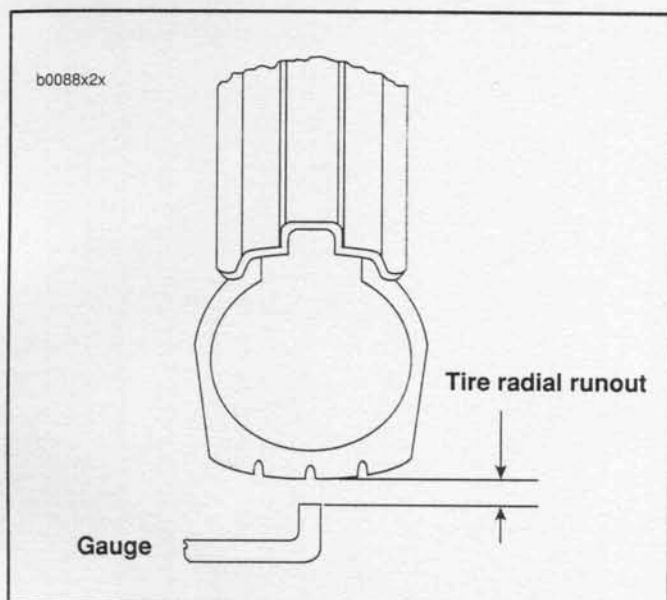

Figure 2-40. Checking Tire Radial Runout
1. See Figure 2-40. Check radial runout by turning wheel on axle, measuring tread runout.